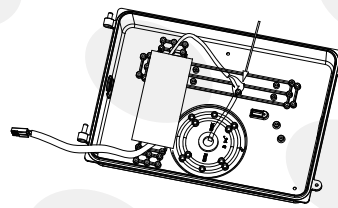

Figure 4
3. Loosen the plug on the bottom plate, then put the wiring through the hole, screw the bottom cover with junction box on the wall.(Figure 3, A&B) 4. Make wiring connections per "Electrical Connections" section and make sure the good wire protection.(Figure 4)